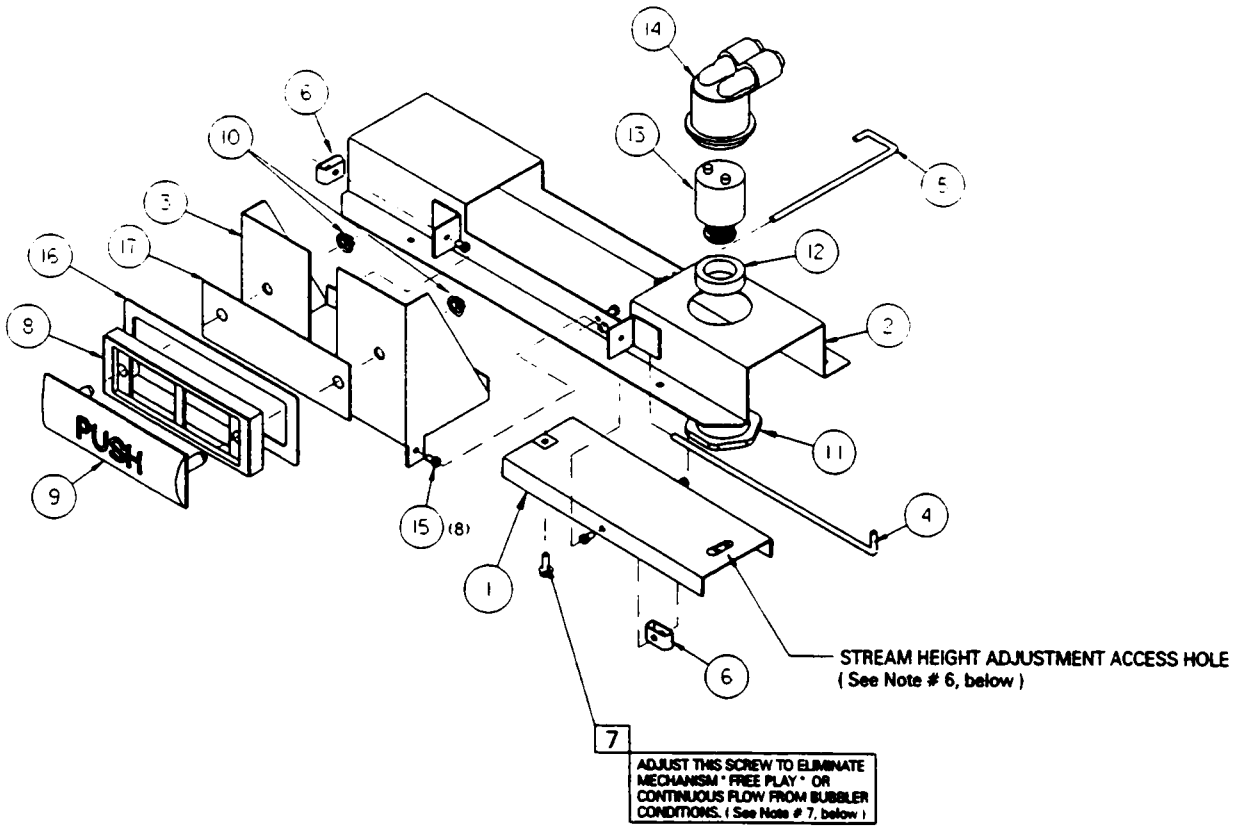

FIG. 4
6. Check stream height from bubbler. Stream height is factory set at 45 - 50 PSI. If supply pressure varies greatly from this, adjust screw on regulator (Item 13). Clockwise adjustment will raise stream height and CCW adjustment will lower stream height. For best adjustment stream height should be approximately 1 1/2" (38 mm) above the bubbler guard. (See Figure 4 and 5)